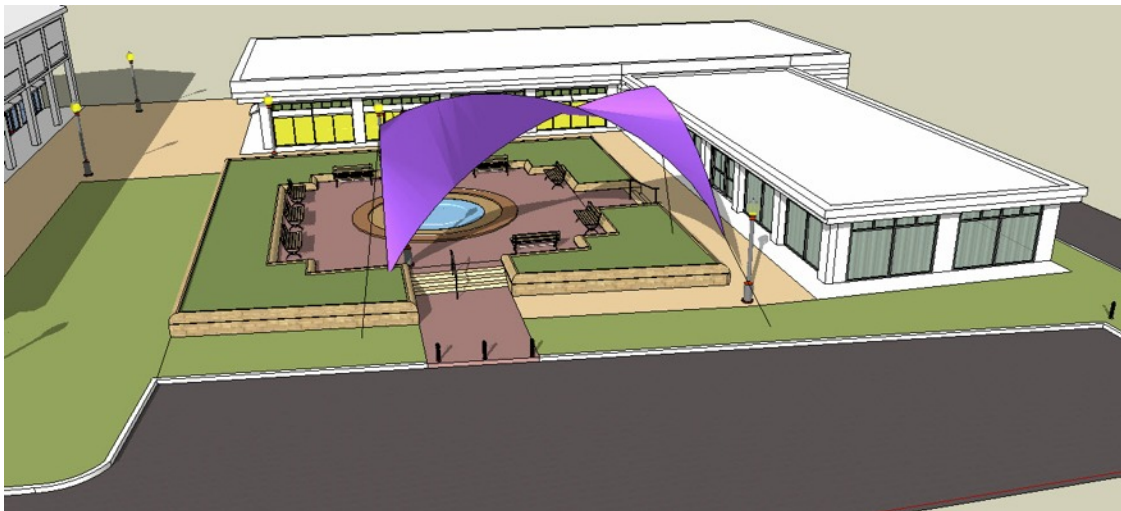

Figure 110. The Canopy component inserted in the model
- Create a layer called 'Complex Canopy', make it the current layer and insert the canopy component at a position in the model as shown in Figure 110. Ensure that the canopy corner without the stay just touches the face of the grass as shown in Figure 110. Don't worry if the stays are too long as they will simply look as if they are attached to the faces at ground level.